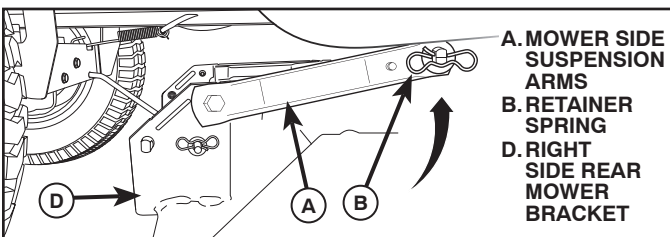

Fig. 11
6. ATTACH MOWER SIDE SUSPENSION ARMS (A) TO CHASSIS (See Fig. 11)
- Position front hole in side suspension arm (A) over pin on outside of tractor chassis and secure with large washer and large retainer spring (B).